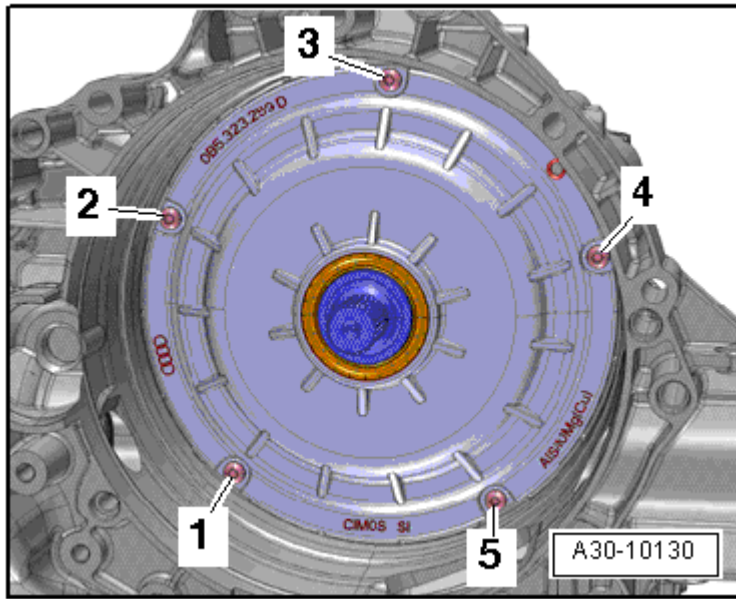

Fig. 2: Identifying Tightening Sequence For Dual Clutch And Clutch Cover
- Tightening specification and sequence, refer to **Fig. 2**